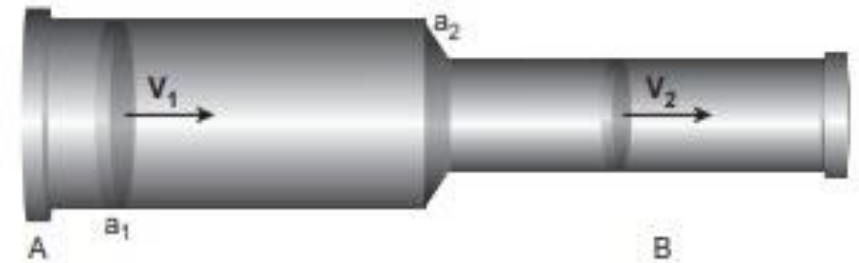

Fig 7.32 A streamlined flow of fluid through a pipe of varying cross sectional area
- Consider a pipe AB of varying cross sectional area a_1 and a_2 such that $a_1 > a_2$. A non-viscous and incompressible liquid flows steadily through the pipe, with velocities v_1 and v_2 in area a_1 and a_2 , respectively as shown in Figure 7.32.